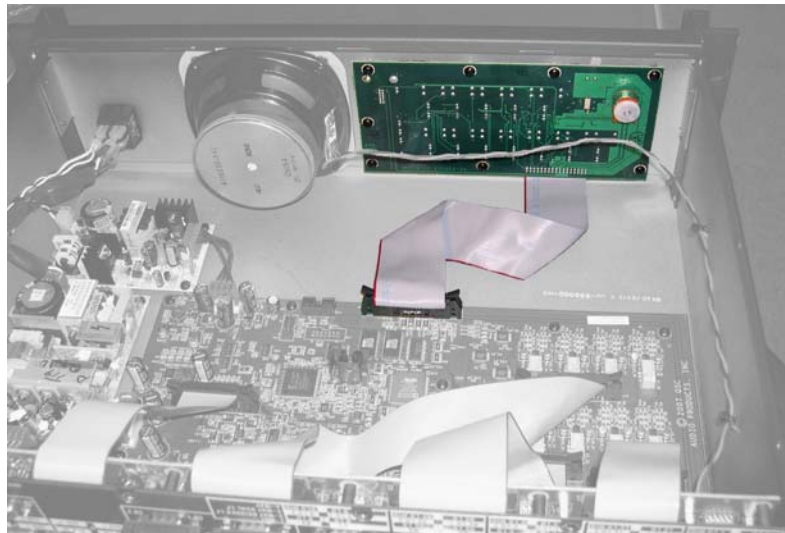

Figure 1. The front panel circuit board and its ribbon cable (in color).
4. The front panel circuit board (see Figure 1) connects to the main board via a ribbon cable. On the main circuit board, open the locking levers on the ribbon cable header and detach the cable.